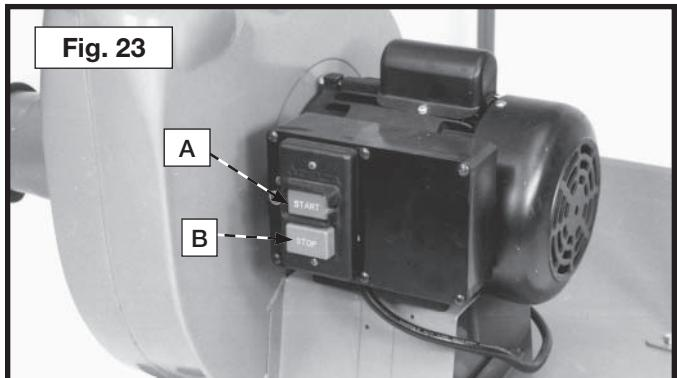

Fig. 23
The "ON/OFF" switch is located on the side of the motor. To turn the machine "ON", push the start button (A) Fig. 23. To turn the machine "OFF", push stop button (B).
Your dust collector motor is supplied with a resettable circuit breaker. If the motor shuts off or fails to start due to an overload condition, turn the dust collector switch "OFF," let the motor cool three to five minutes, and push the reset button (D) Fig. 23, on the circuit breaker to reset the breaker. The motor can then be turned on again in the usual manner. If the overload continues to trip, visit our website at www.deltamachinery.com for a list of service centers or call the DELTA Machinery help line at 1-800-223-7278 (In Canada call 1-800-463-3582).